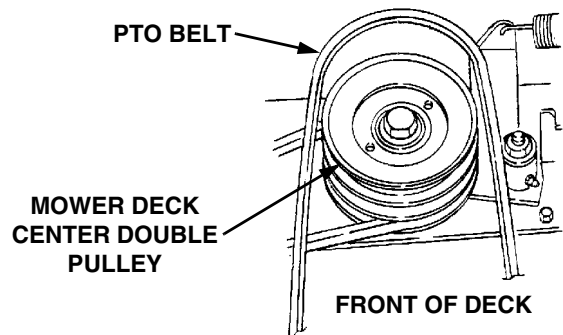

Figure 52
13. Install the rearward end of the PTO belt on the upper pulley of the deck center double-pulley (See Figure 52). Ensure that the narrow side of the belt engages the groove of the upper pulley.